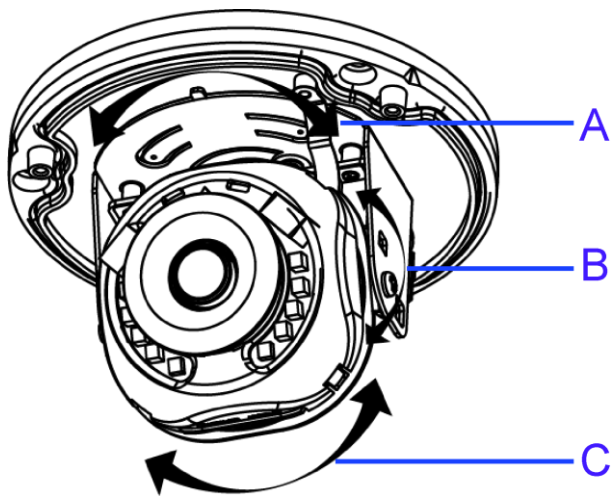

Figure 6
The camera has three axes to adjust the field of view for different applications (Figure 6). While screening live view on your monitor, adjust the axes as per the information below on the next page.
- **Pan Adjustment (A - Figure 6)** Rotate the lens base until satisfied with the field of view. Please DO NOT rotate over the default limit of  $>355^\circ$ .
- **Tilt Adjustment (B - Figure 6)** Tilt the camera lens within the certain range ( $70^\circ$ ) to your desired field of view.
- **Horizontal Rotation (C - Figure 6)** Rotate the 3D assembly in the lens, DO NOT turn the assembly more than the limit ( $\pm 355^\circ$ ) as this may result in the internal cables becoming twisted, disconnected, or broken.